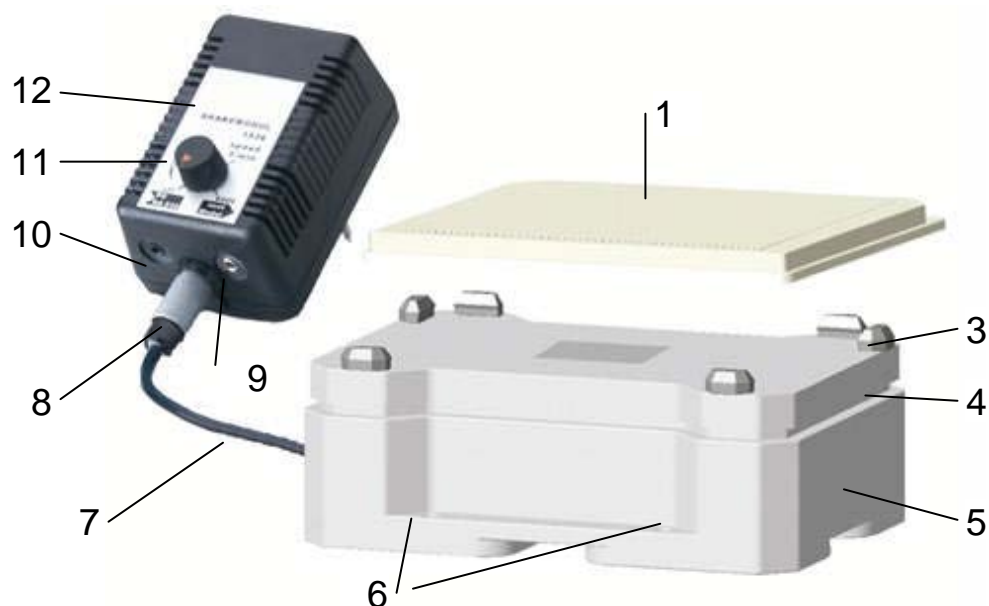
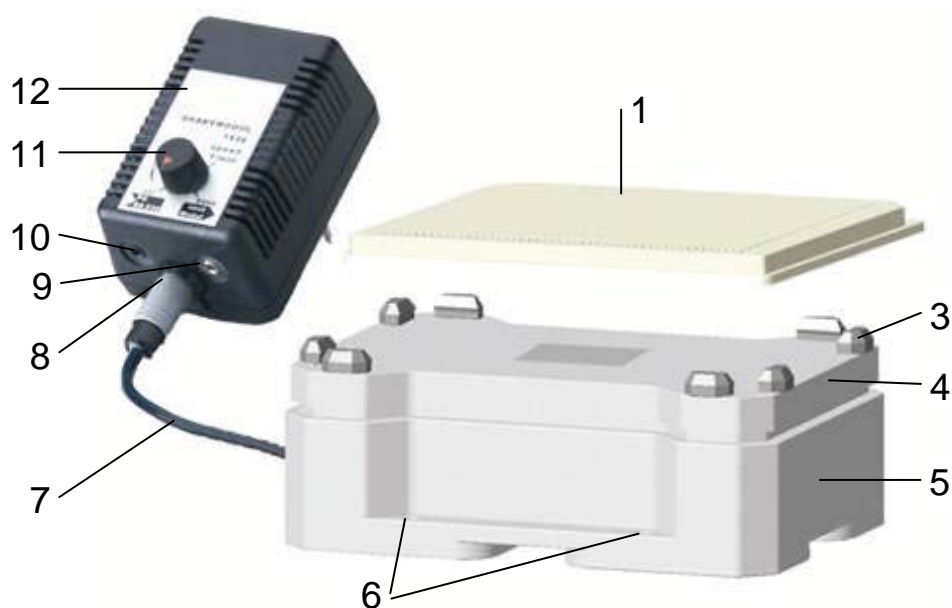

Figure 1: Magnetic shaker *TELESHAKE 1536-6* with the control unit *SHAKEMODUL 1536*
Figure 2: Magnetic shaker *TELESHAKE 1536-8* with the control unit *SHAKEMODUL 1536*
Figures 1 to 3 show the components together with their position numbers. The scope of delivery is listed on page 4.
The remote-controlled **TELESHAKE 1536-6** (Figure 1) and **TELESHAKE 1536-8** (Figure 2) magnetic shakers consist of a drive block (5) with a shaker platform (4) for a 1536 microtiter plate (MTP¹) (1). The magnetic shaker is also suitable for 384 microtiter plates.